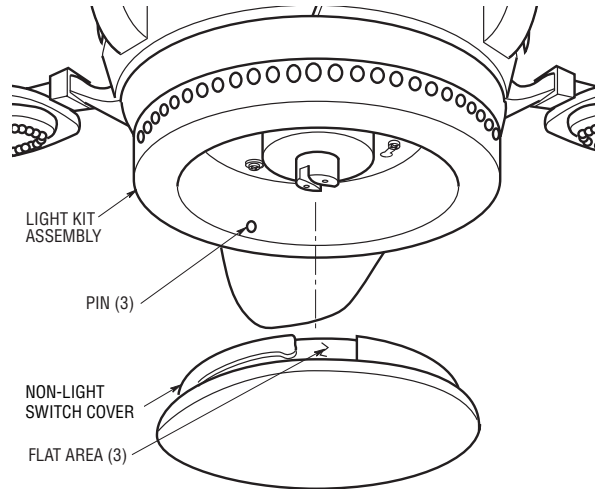

Figure 20
1. Place the non-light switch cover onto the light kit assembly aligning the three flat areas on the top flange of the non-light switch cover with the three pins on the inside of the assembly (Figure 20). Then turn the non-light switch cover clockwise until it stops turning.